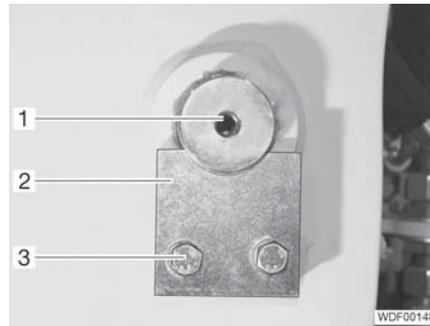

Fig. 195 Pin attachment
- Unscrew the 2 screws (Fig. 195,3) and remove the locking plate (Fig. 195,2).
- At the same time, hold the lifting cylinder in place and drive out the pin (Fig. 195,1), removing the shim washers if necessary.
- Drive in the pin (Fig. 195,1) so that the groove for the locking plate points towards the screws (Fig. 195,3).
- Insert the locking plate (Fig. 195,2).
- Insert and tighten 2 screws (Fig. 195,3) with spring lock washers and disks.